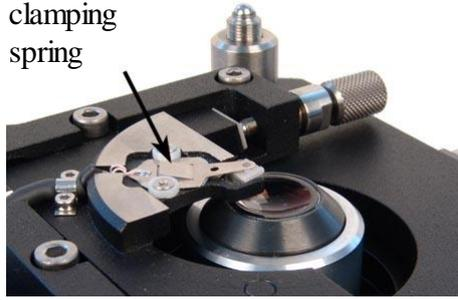

Fig. 8-19. Probe holder
3. Press the handle to raise the pressing spring (Fig. 8-19).